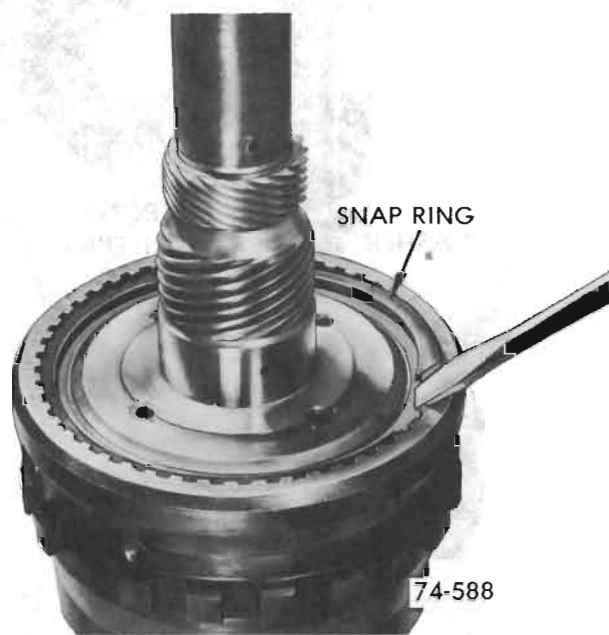

Figure 76-130
8. Install output shaft to output carrier snap ring. See Figure 76-130.